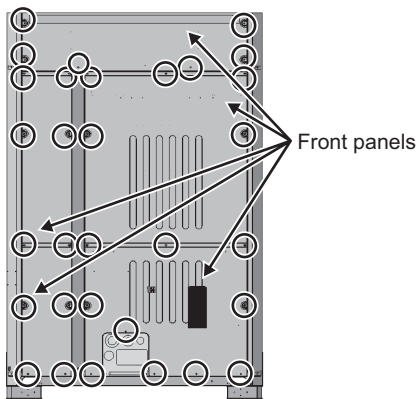

Fig. 77
(1) Remove the panels from the unit. (31 screws: Fig. 77)